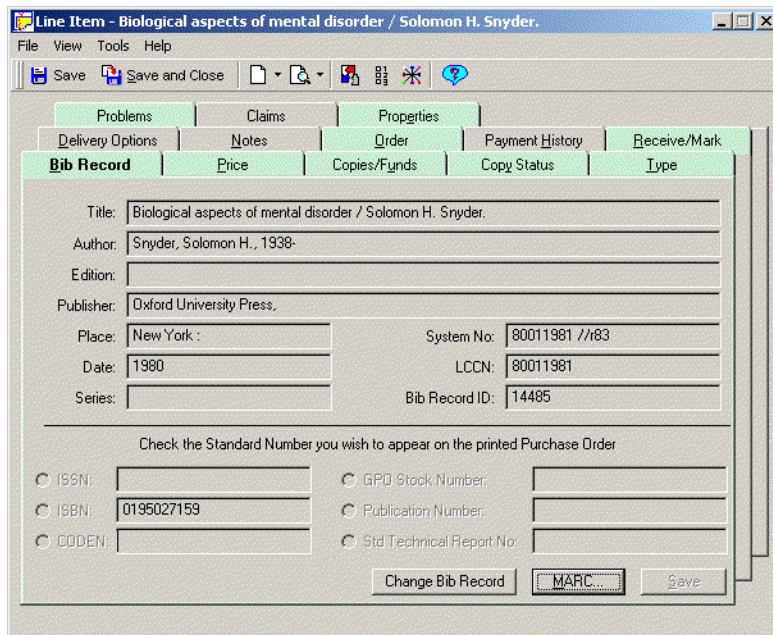

Figure 13-4. Line Item dialog box - Bib Record Tab
- The **MARC** button on the **Bib Record** tab (Figure 13-4) of a line item, which displays brief descriptive data from the bibliographic record associated with the line item. See Bib Record Tab on page 6-38 for more information.